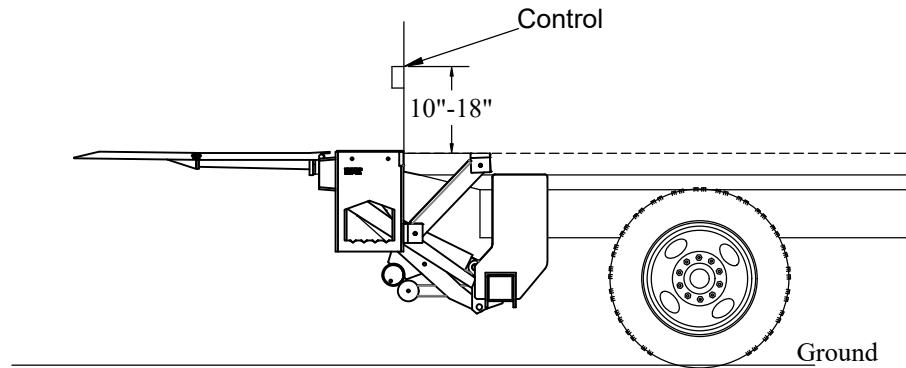

Figure 27: Control Positioning.
3. **Route** the control wire from the pump box (on the driver side) to mounting location on the rear of the truck (on the passenger side) (Figure 27).